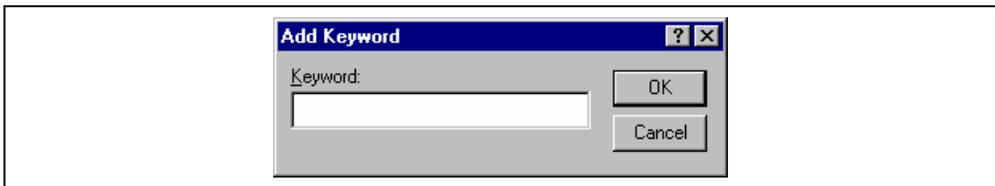

Figure 4.13: Add Keyword Dialog
- Click the “Add...” button to add a keyword. Then the “Add Keyword” dialog (figure 4.13) will be launched. Specify a keyword in the “Keyword” field and click “OK” to close the dialog. To remove a keyword, select the keyword and click the “Remove” button.